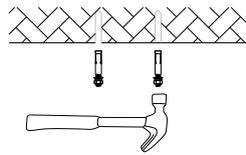

Figure 4
Step2. Fix screws into the holes with a hammer. (Figure 4)